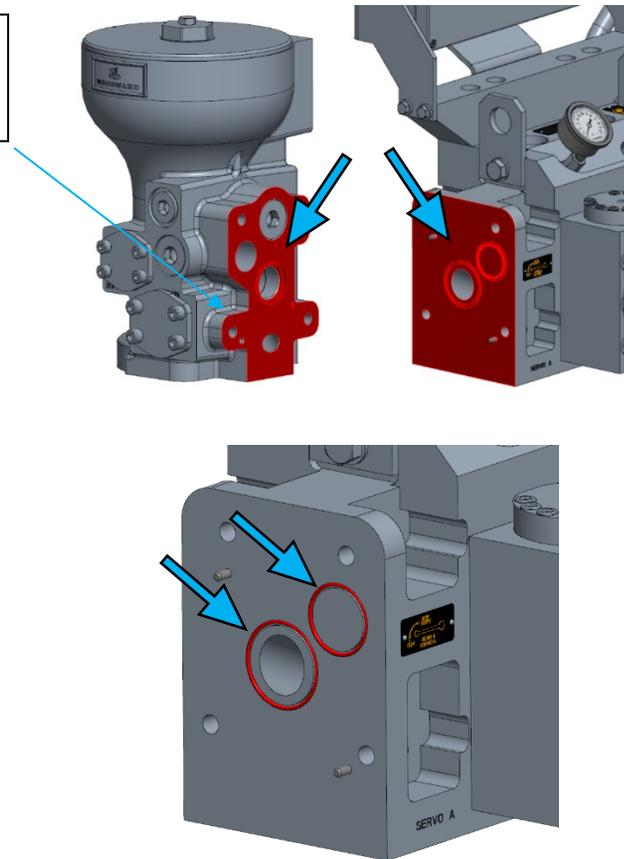

Figure 2-35. Connection Interface Cleaning and O-rings Installation
2. Clean connection interface surfaces using Isopropanol alcohol (Figure 2-35).
Lubricate O-rings (two pieces) with Parker Super O-Lube or petroleum jelly and install onto grooves (Figure 2-35).